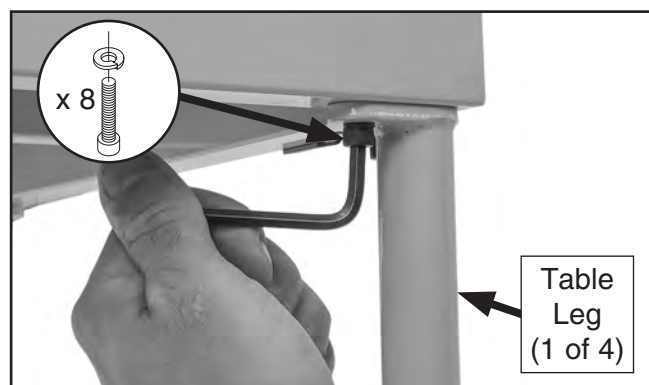

Figure 6. Attaching table leg (1 of 4).
1. Attach table legs to table using (8) M6-1 x 16 cap screws and (8) 6mm lock washers (see **Figure 6**).